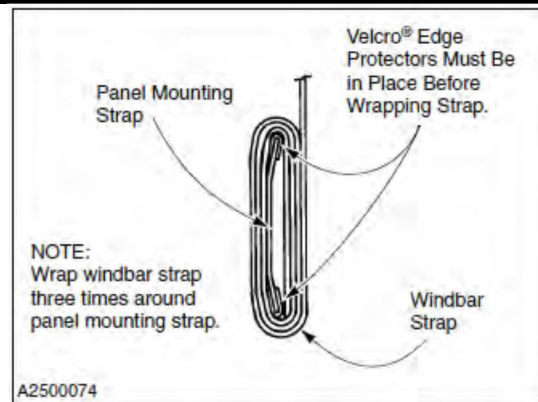

Figure 3
- 8.) Wrap the windbar strap around the panel mounting strap 3 times. (See Figure 3) Let the remaining windbar strap hang.
- 4.) Wrap the windbar strap around the panel mounting strap 3 times. (See Figure 3) Let the remaining windbar strap hang.